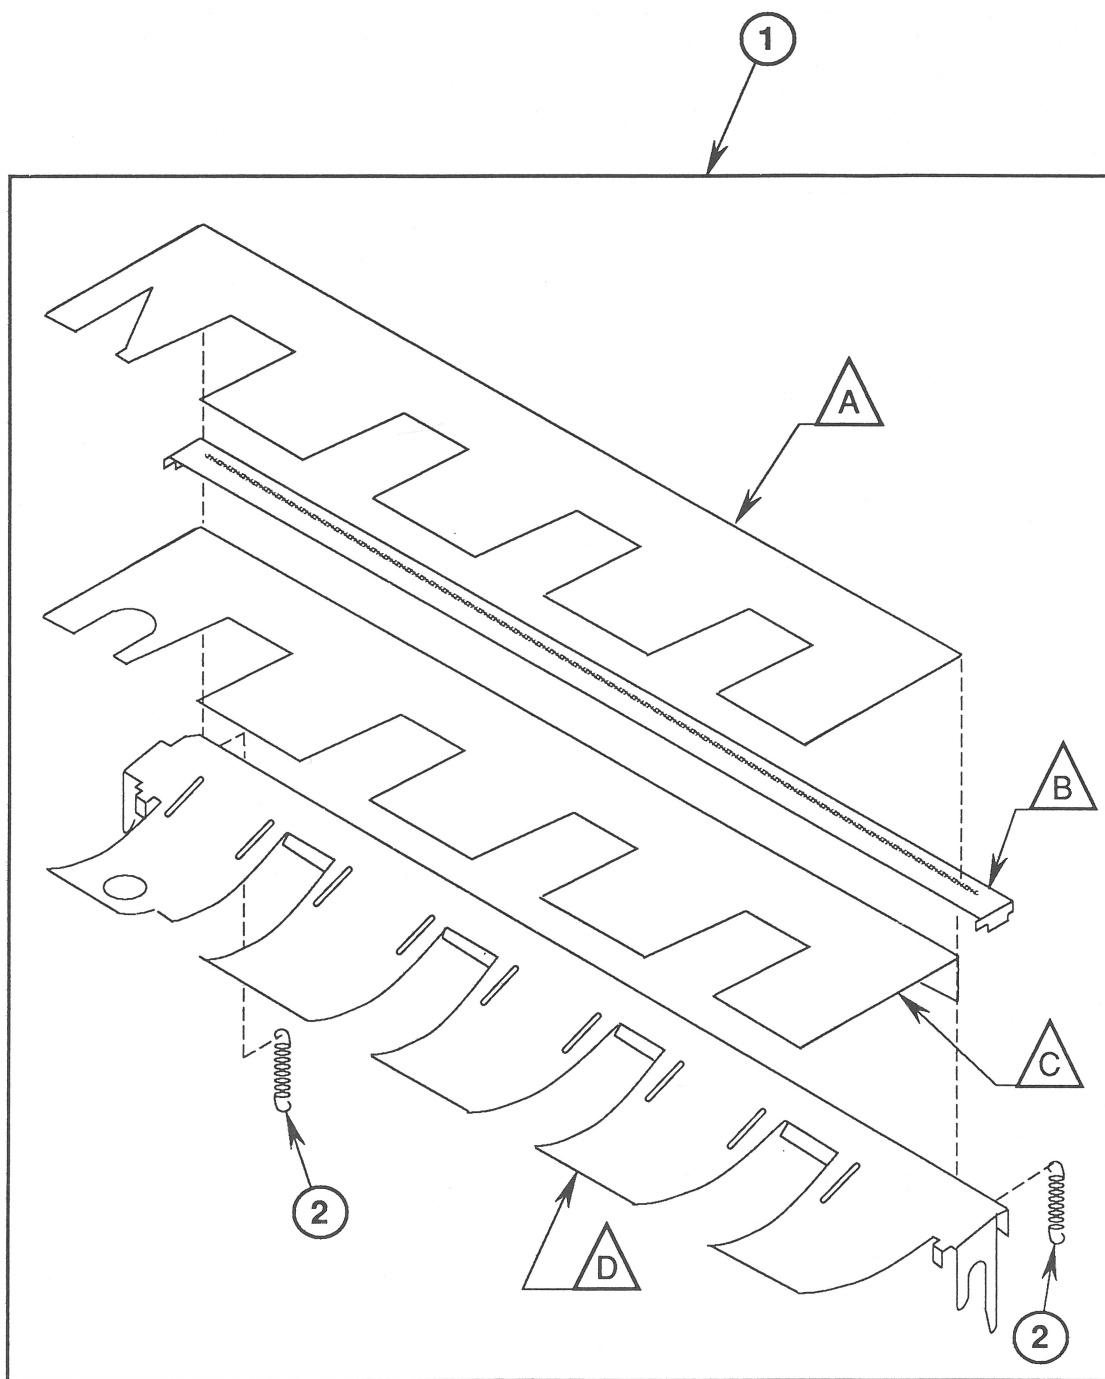

FIGURE 12
□ PAPER PAN SUBASSEMBLY (Figure 12)